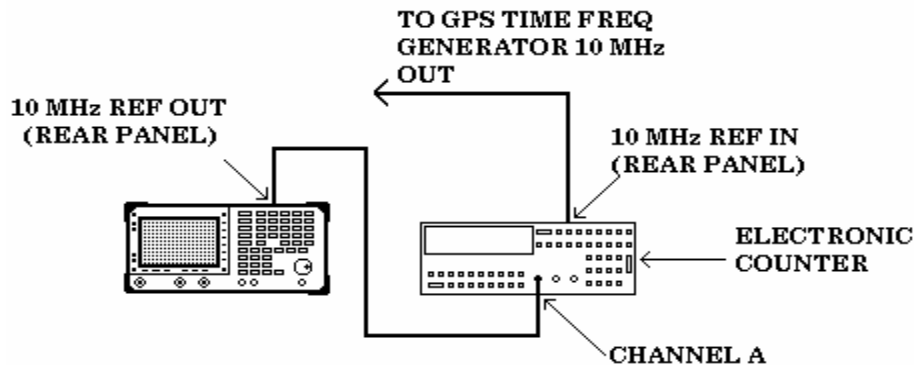

Figure 1. Frequency reference setup.
- b. Connect equipment as shown in figure 1.